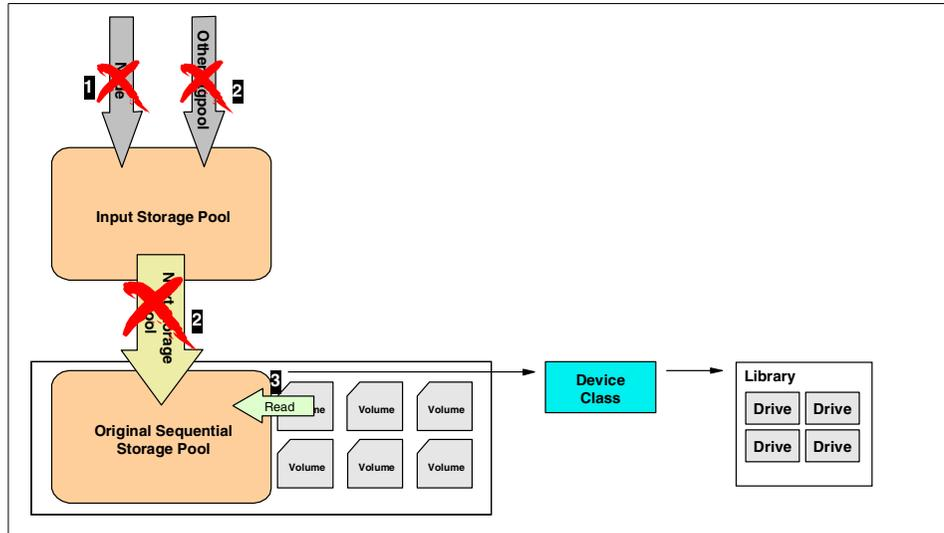

Figure 79. Preparing server storage pools before migration
1. The first phase in the migration will prepare the Tivoli Storage Manager server for the migration. Its main purpose is to disable all data movement between storage pools, and to create an image of the server just before the migration (see Figure 79).
- b. Disable the server for client operations (1). Also, disable all administrative schedules that might have an influence on the storage pools (for example, database backup, migration, reclamation, and storage pool backup processes).
- Update the input storage pool so that it will not migrate. This can be done by setting the HIGHMIG value of the disk storage pool to 100. Also, update this value on all storage pools that might migrate to the input storage pool (2).
- Update the original tape storage pool, setting all volumes to read only (3), and the MAXSCRATCH parameter to zero. Also set the REUSEDELAY parameter to a value that will allow you to reuse the database backup created in step 1a on page 169. Although both are not directly related, setting the REUSEDELAY parameter will allow